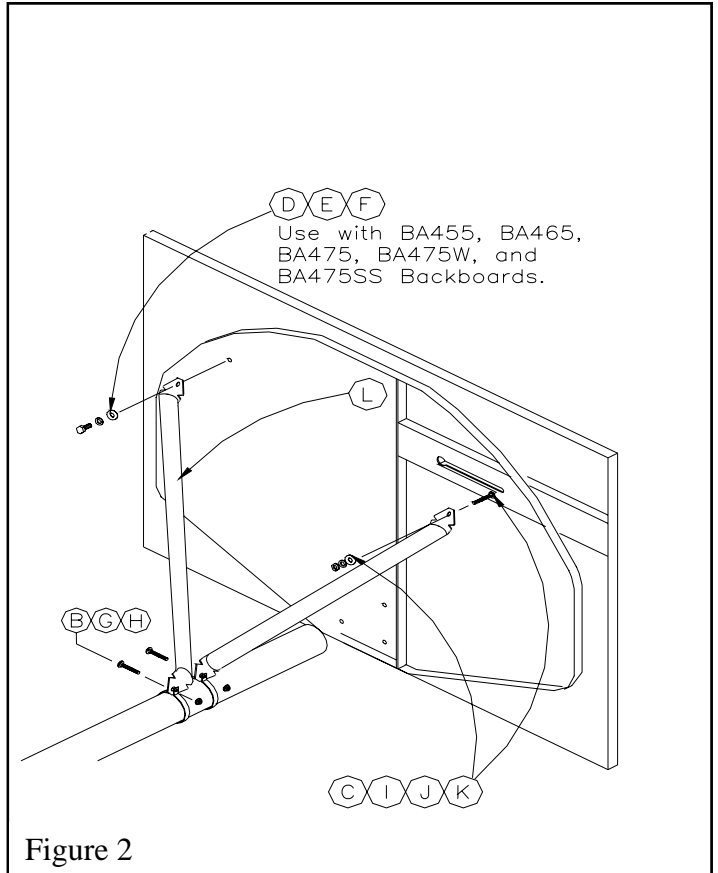

Figure 2
4. Clean excess concrete from pole. Level the pole in the hole and allow the footing to cure for seven (7) days. Only after the concrete has cured for seven days should you proceed.
5. Seven days have passed. Slide the two 5 9/16" Band Clamps (B) on to the gooseneck portion of the pole. Assemble rim and backboard to the Backboard Mounting Bracket (A), then attach the Backboard Mounting Bracket (A) to the end of the pole with 1/2" Square Head Set Screws (M) making sure that the rim and the backboard are level. Fasten Backboard Braces (L) to the backboard with 7/16" X 2" Carriage Bolts (C), 7/16" Flat Washers (I), 7/16" Lock Washers (J) and 7/16" Hex Nuts (K) or with 3/8" X 1" Hex Bolt (D), 3/8" Flat Washers (E) and 3/8" Lock Washers (F) depending upon the style of backboard. See Figures 2 and 3.